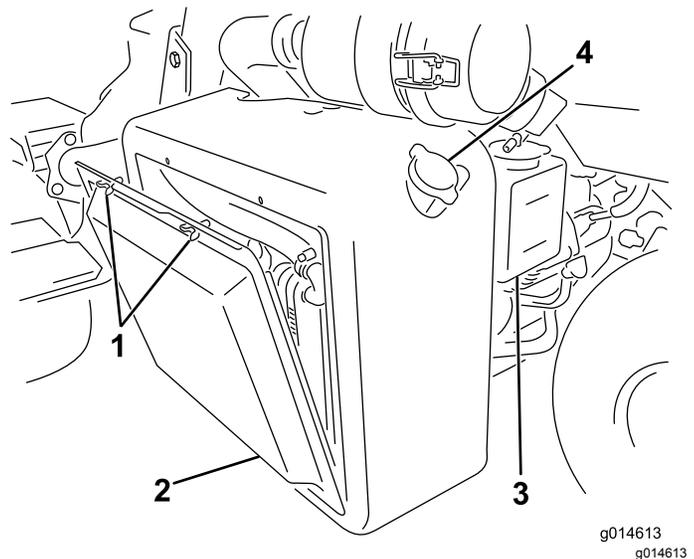
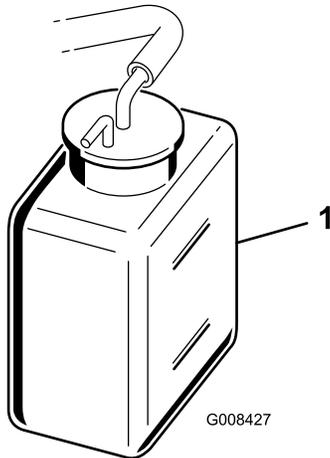

Figure 44
Figure 45
1. Remove the radiator screen (Figure 44).
2. Check the coolant level (Figure 44 and Figure 45).